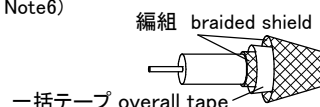

Fig.2
2. Place center contact of the connector on inner conductor of the cable and crimp the center contact at the correct position (without remaining a gap) as shown in Fig.2. Use the specified crimp tool and die.